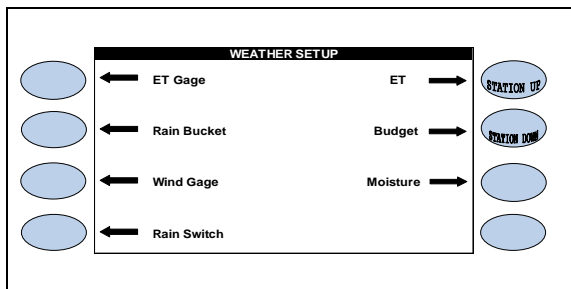

Figure 5.2
The WEATHER SETUP screen is displayed (Figure 5.2).
13. Press the **BACK** key to return to the WEATHER SETUP screen (Figure 5.2).
From the WEATHER SETUP screen (Figure 5.2).